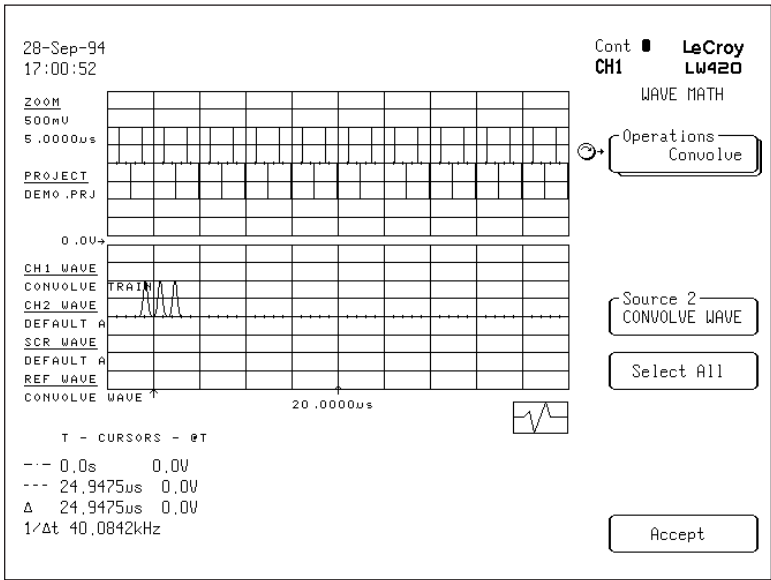

Figure 8.5 Dual Waveform Math
- 1. Push **2nd** followed by **WAVEMATH**—See figure 8.5